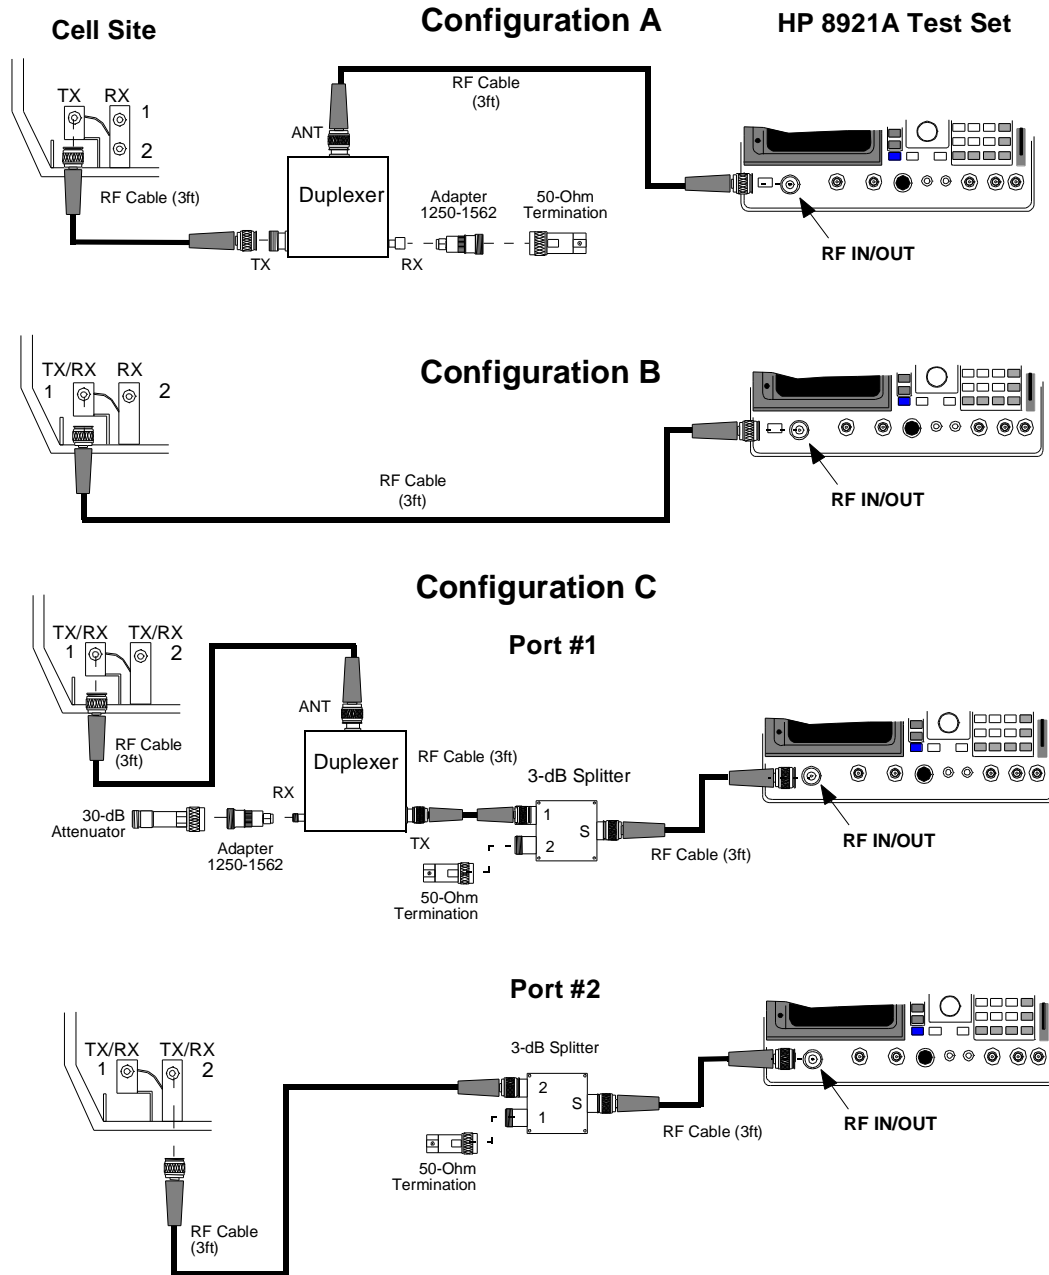

Figure 54
Any external equipment associated with your TX path such as a duplexer, splitter, or RF cable. See figure 54 on page 83 for TX path diagrams.
- 7 Connect the HP 8921A and your TX path equipment to the TX output port of the cell site. *Figure 54 on page 83* shows the connections for each base station configuration (A, B, and C).